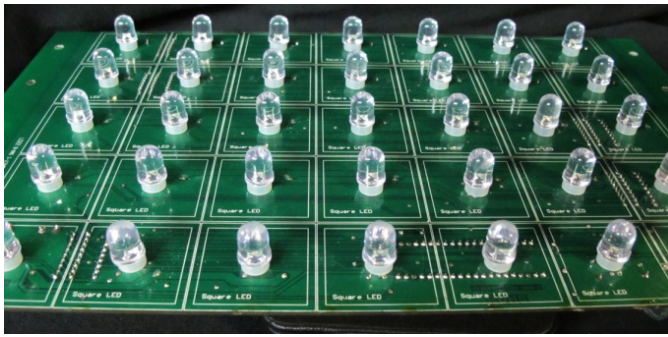
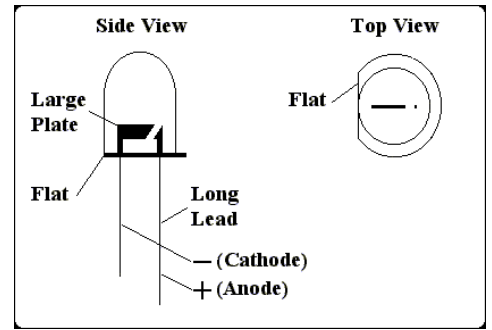

Fig. 1
Fig.2
Step 6: Install the replacement LEDs. The anode (long lead) goes to the resistor side of each circuit. Install a nylon spacer between the LED and the circuit board before inserting and soldering the LEDs. All 35 LEDs are inserted in the same direction. **See Fig.1 and Fig. 2**